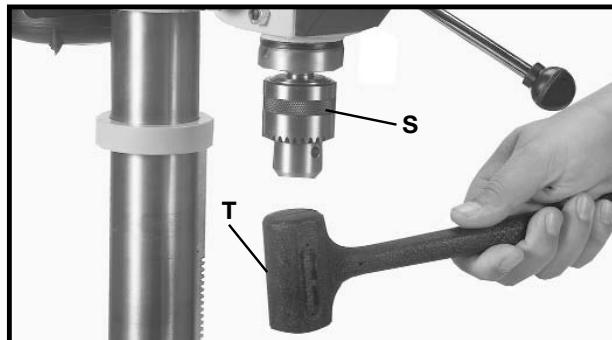

Fig. 16
11. IMPORTANT: Open the chuck jaws as wide as possible by turning the chuck sleeve (S) Fig. 16.
12. Holding chuck on taper of spindle, tap with a soft tip hammer (T) or a block of wood and hammer to set chuck, as shown in Fig. 16. **IMPORTANT:** To avoid damage to the chuck, **NEVER** drive the chuck onto the spindle with a metal hammer.